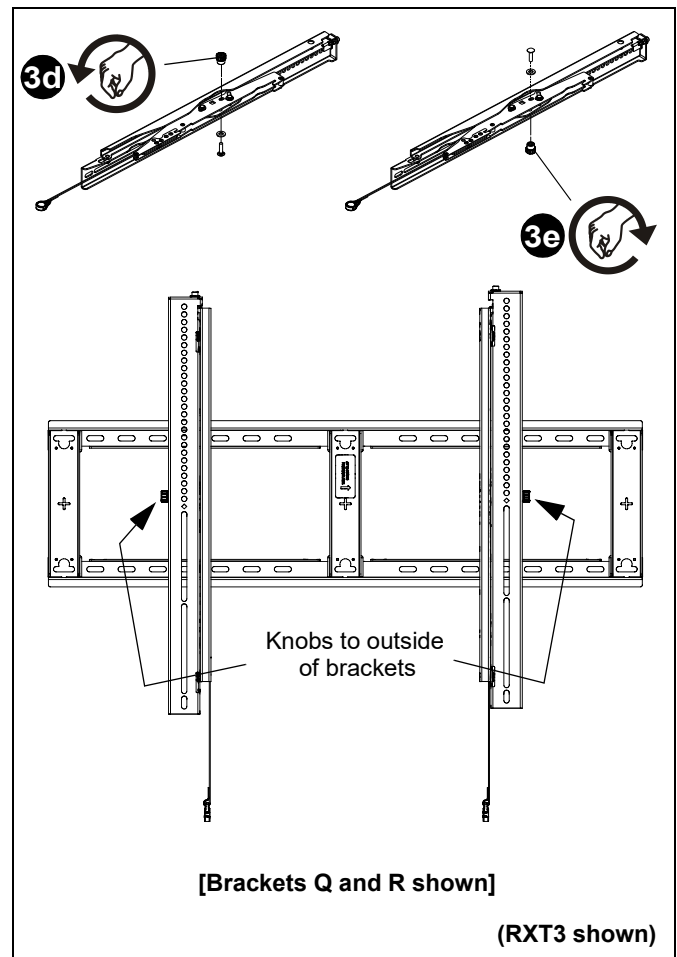

Figure 12
3. If necessary, the tilt interface bracket knobs may be switched to allow the interface brackets (Q and R) to be reversed. (See Figure 12)